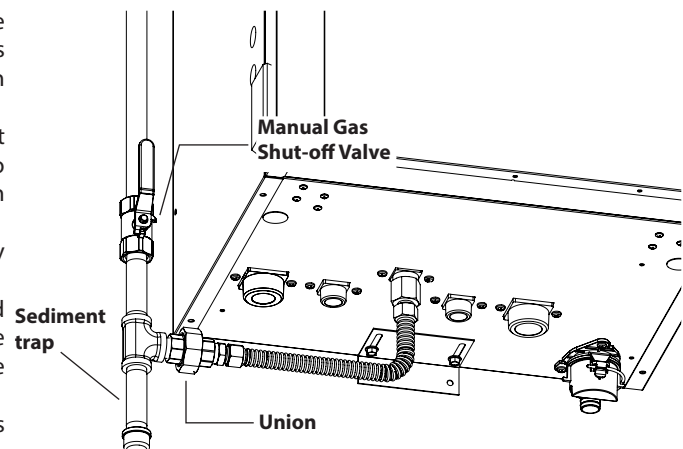

Figure 56 - Gas Line with Shut-Off and Sediment Trap Detail
- The National Fuel Gas Code (NFPA 54) requires that a sediment trap (drip leg) be installed in the gas line on boilers not so equipped. The drip leg must be accessible, a minimum of 3" in length, and not subject to freezing conditions. See Figure 56.
- A manual gas shut-off valve should be installed in the gas supply line close to the boiler. See Figure 56.